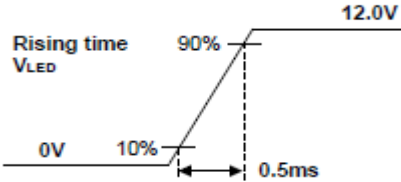

Figure 5. Inrush Measure Condition
- 3. Measure condition (Figure 5).